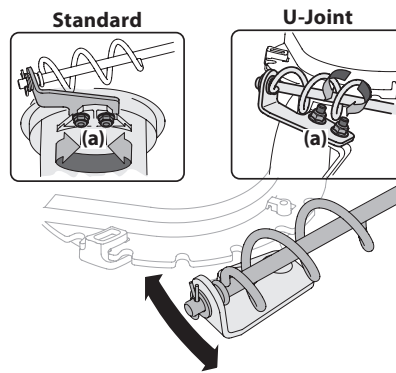

Figure 4-10
- Loosen two nuts (a) which secure chute bracket and reposition it slightly. See Figure 4-10.